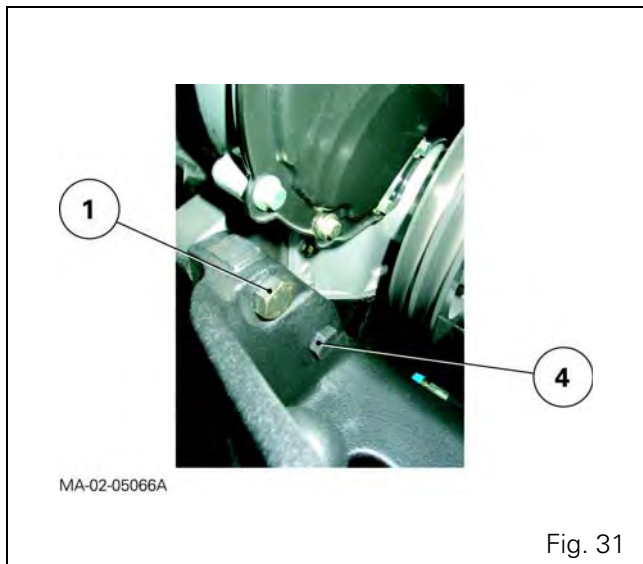

Fig. 31
Preparing for shimming (Fig. 31)
- 61.** Slightly loosen the screws (4) and bolts (1) (Fig. 31).
- 62.** Position the shims (1): the end E should be turned downwards.